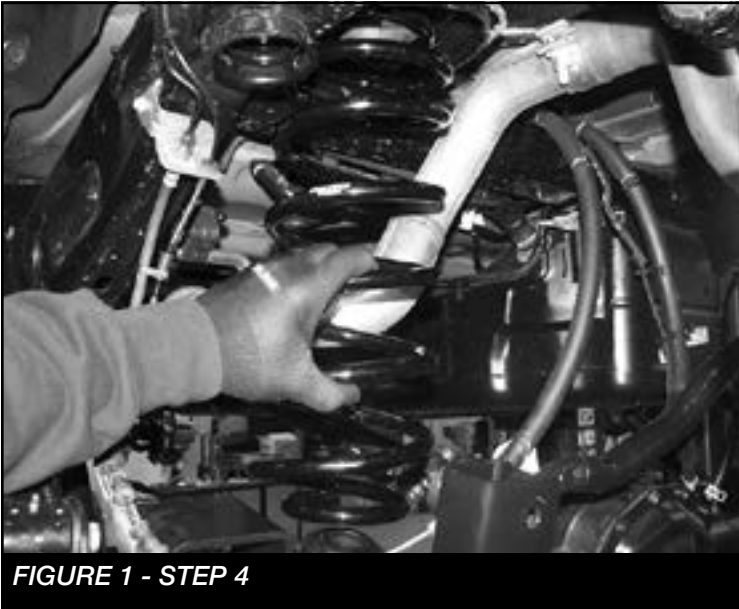

FIGURE 1 - STEP 4
4. Install the new Fabtech rear coil springs FT50602 or FT50606 (Driver Rear) & FT50603 or FT50607 (Pass Rear) using the factory rubbers isolators. **SEE FIGURE 1**